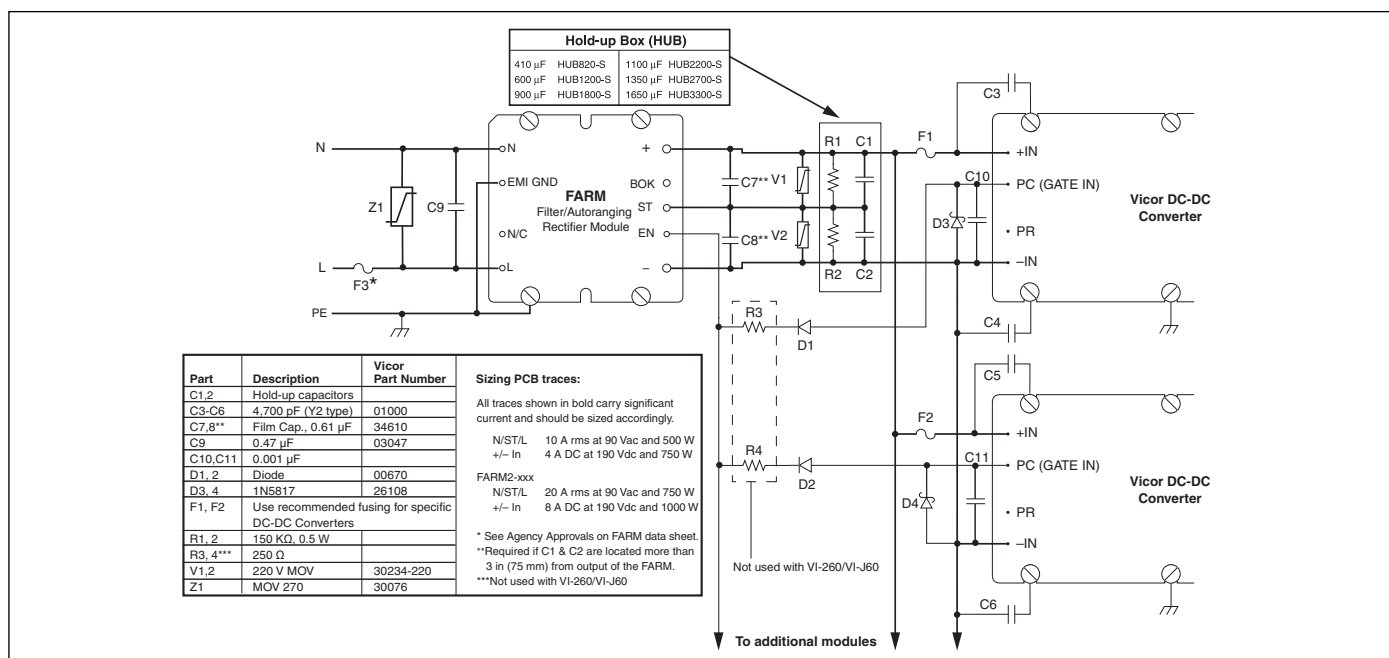

Figure 8–3 — Offline power supply configuration
Strap (ST) Pin. In addition to input and output power pin connections, it is necessary to connect the Strap pin to the center junction of the series hold-up capacitors (C1, C2, Figure 8–3) for proper (autoranging) operation. Metal-oxide varistors, V1 and V2 provide capacitor protection. The bleeder resistors (R1, R2, Figure 8–3) discharge the hold-up capacitors when power is switched off. Capacitors C7 and C8 are recommended if the hold-up capacitors are located more than 3 inches (75 mm) from the FARM output pins.
Bus OK (BOK) Pin. (Figure 8–5) The Bus OK pin is intended to provide early-warning power-fail information and is also referenced to the negative output pin.
Filter. (Figure 8–6) An integral input filter consists of a common-mode choke and Y-capacitors (line-ground) plus two X-capacitors (line-line). This filter configuration provides common-mode and differential-mode insertion loss in the frequency range between 100 kHz and 30 MHz.
Hold-up Capacitors. Hold-up capacitor values should be determined according to output bus voltage ripple, power fail hold-up time, and ride-through time. (Figure 8–7)